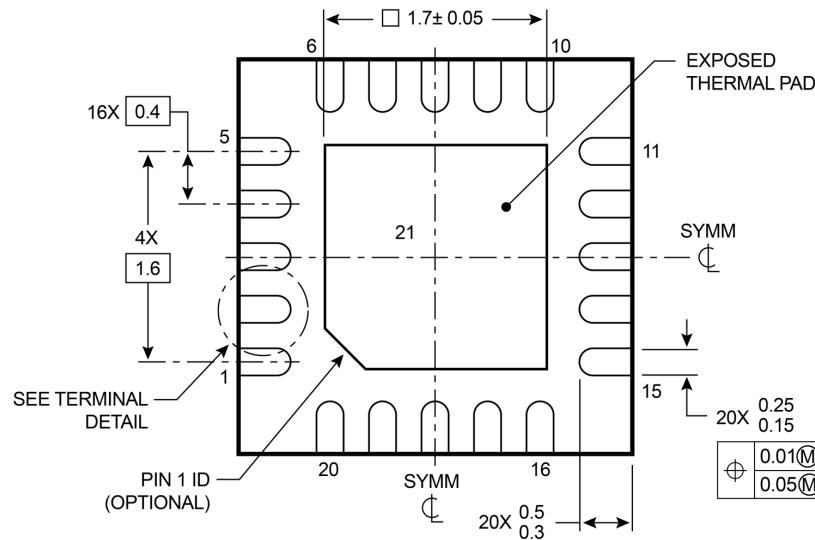

Figure 1. The MSPM0C1104 in a 20-pin 0.8mm QFN package drawing
- **Quad flat no-lead (QFN).** Instead of traditional leads, a QFN package consists of flat contacts around the edges of the plastic encasing and an exposed thermal pad on the bottom for improved thermal performance. **Figure 1** shows a package drawing of the **MSPM0C1104**, a 20-pin microcontroller that is only 9mm².